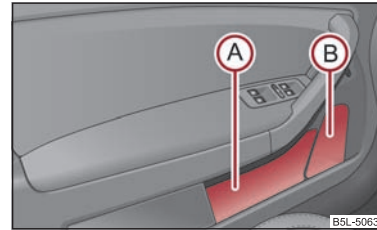

Fig. 94 Storage compartment in the front doors
A bottle holder is located in the area (B) ⇒ fig. 94 of the storage compartment for the front and rear doors.
Use the area (A) ⇒ fig. 94 of the storage compartment only for storing objects which do not project so that the effectiveness of the side airbag is not impaired. ■